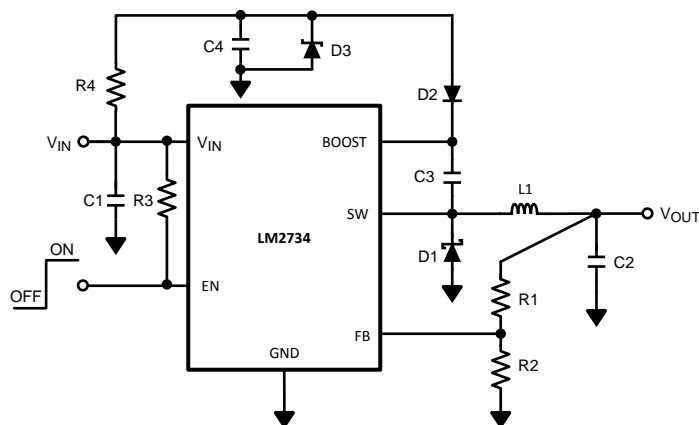

**Figure 28. LM2734X (1.6MHz)**
This function forces  $V_{OUT}$  to increase at a controlled rate during start up. During soft-start, the error amplifier's reference voltage ramps from 0V to its nominal value of 0.8V in approximately 200 $\mu$ s. This forces the regulator output to ramp up in a more linear and controlled fashion, which helps reduce inrush current. Under some circumstances at start-up, an output voltage overshoot may still be observed. This may be due to a large output load applied during start up. Large amounts of output external capacitance can also increase output voltage overshoot. A simple solution is to add a feed forward capacitor with a value between 470pf and 1000pf across the top feedback resistor (R1). See Figure 28 for further detail.
**Table 2. Bill of Materials for Figure 28**